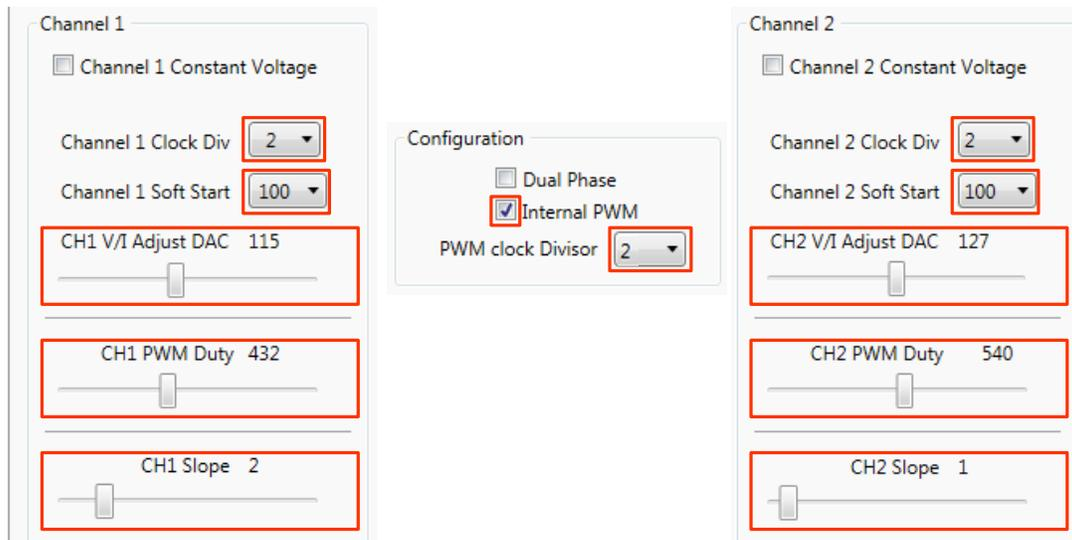

Figure 51. Devices Window Setting
Apply the settings shown in Figure 51.
- R_{CS} is the current sense resistor (R3 for channel-1 and R20 for channel-2) (1)
6. By default CHx-Slope is set to code "5", which corresponds to 250 mV of peak slope. For the TPS92682EVM-70, it is recommended to set the slopes for both channels to a code "1" or "2" as shown in Figure 51